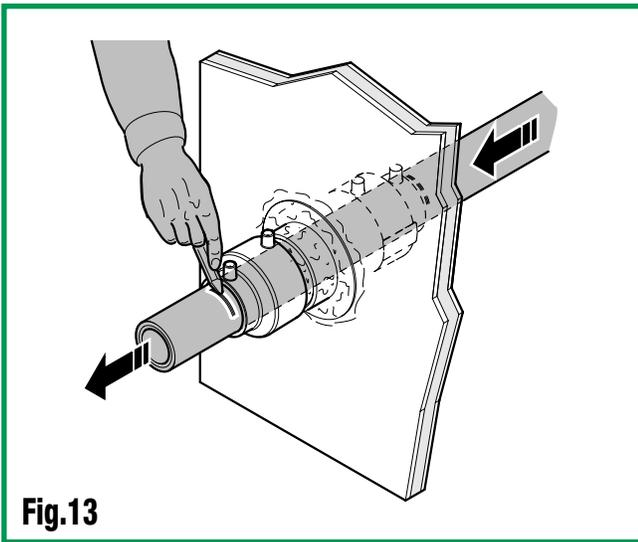

**Fig.12**
**Note:** As regards the installation procedure of Model SEBEFM, from figure 12 onwards it is understood that the front side of the sump shows the installation procedure of SEBEF and SEBEFM, whereas the back side refers to figure 8b for Model SEBEFM.